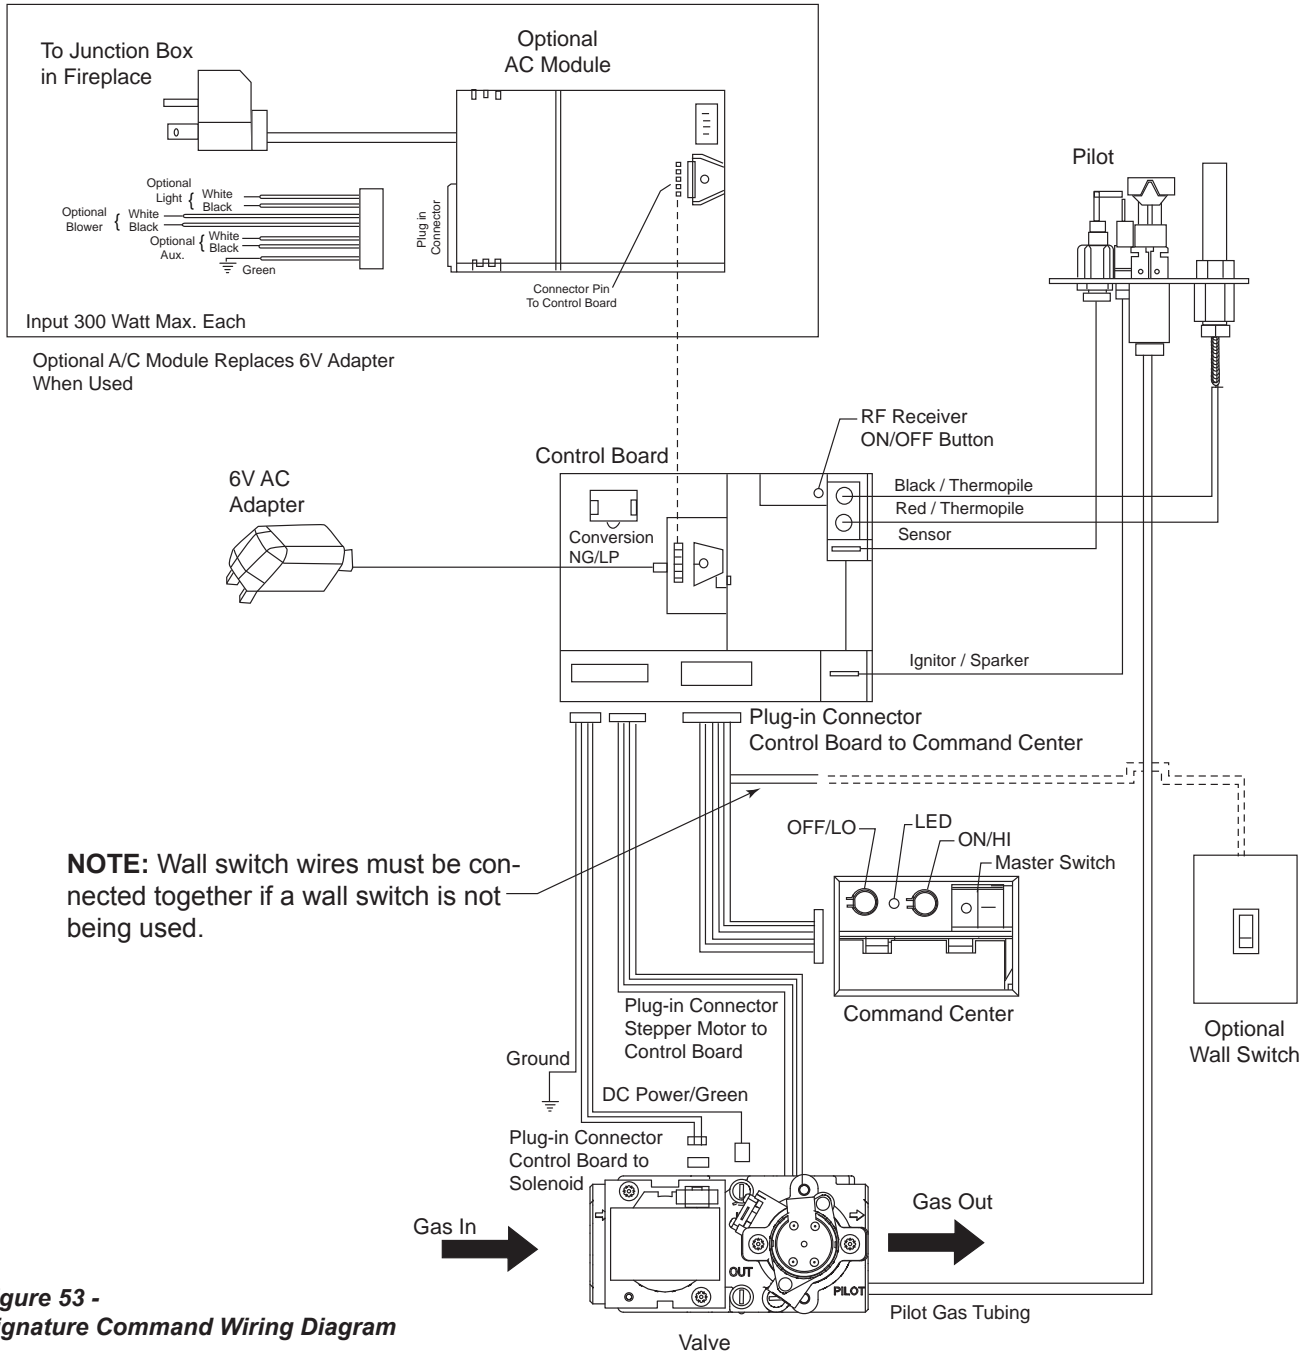

Figure 53 - Signature Command Wiring Diagram
The wall switch wire connection is located off the 2 ft. wire harness from the control box to the command center. *Figure 53*. The connection is labeled "Wall Switch". Unplug the male and female connectors and connect the two (2) low voltage wires provided. Run wire to desired location on wall. Up to 50 ft. of 18 ga. wire may be used if necessary. Attach wires to wall switch. Mount the wall switch in to junction box and screw on cover.